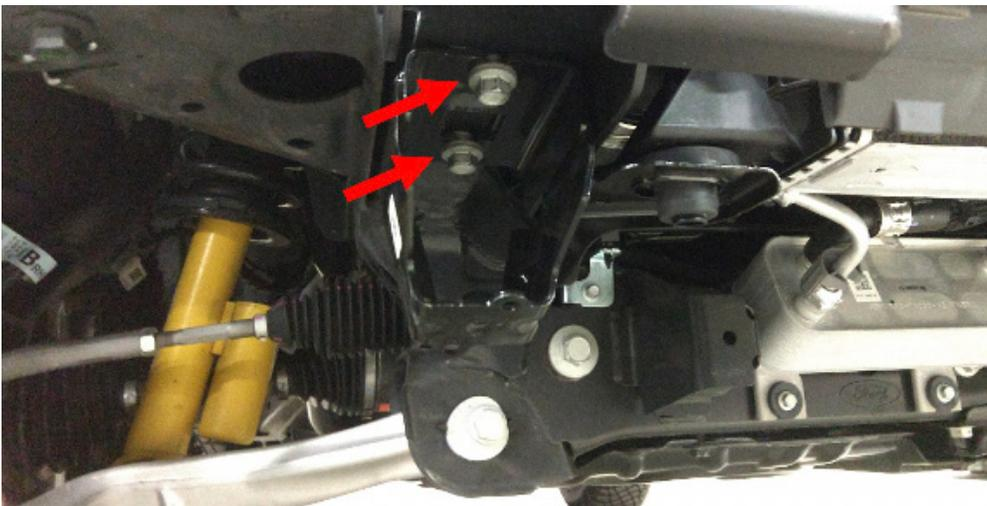

Figure 11
9. Using the 15mm socket wrench, remove the front bolt and loosen the rear bolt that attaches the skid plate mounting brackets to the frame letting the two brackets hang down. (Figure 11)